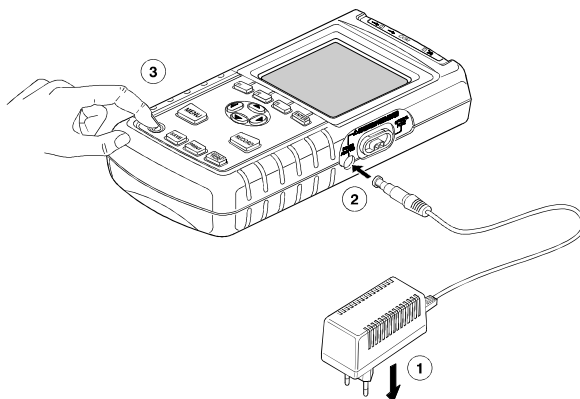

Figure 2. Powering the Fluke 43B
- 2 Connect the power adapter cable to the Fluke 43B (see Figure 2).